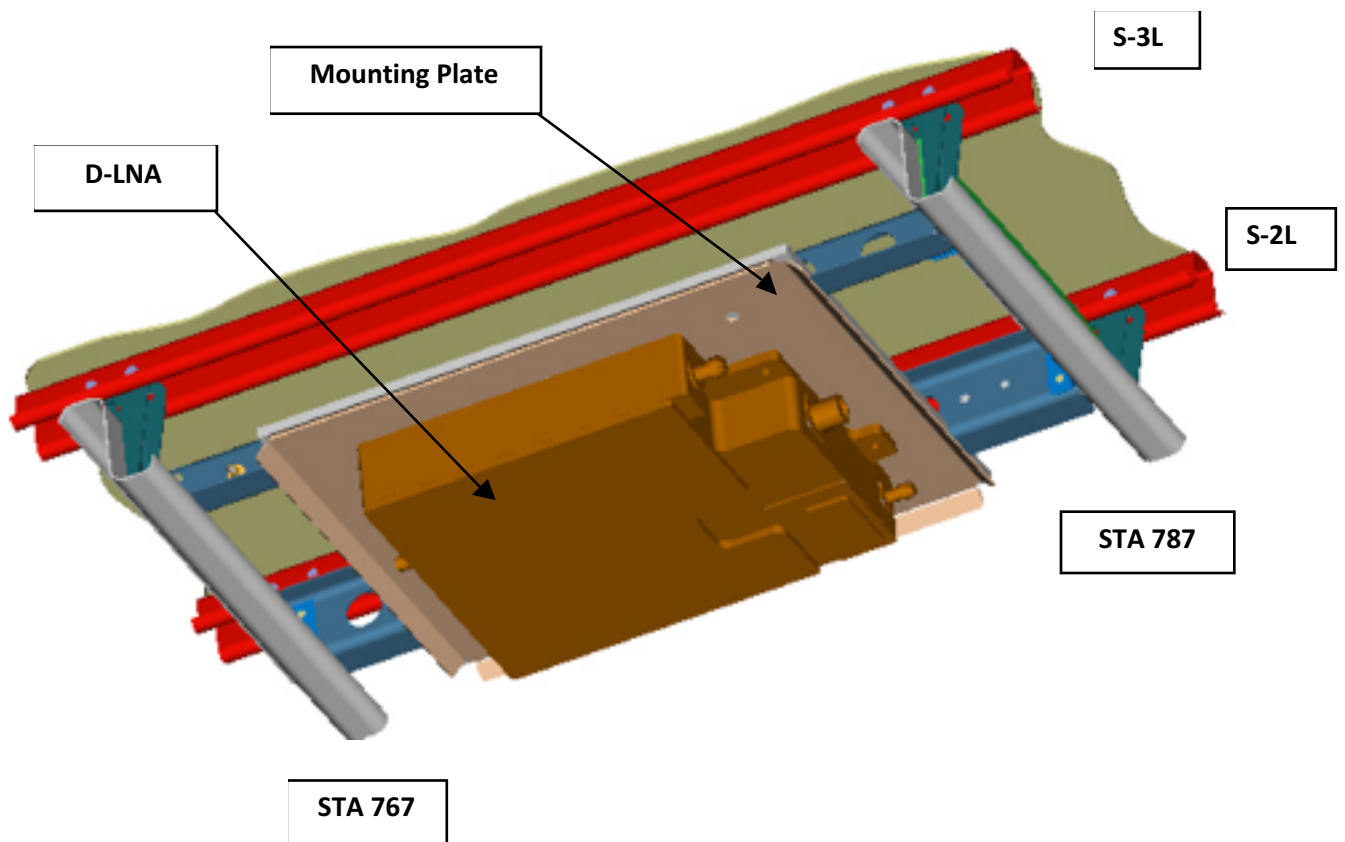

FIGURE 2 – D-LNA STRUCTURAL PROVISIONS INSTALLATION
- » See Figure 2 for additional details regarding the IGA antenna provisions.
- » Figure 2 shows the equipment installed.